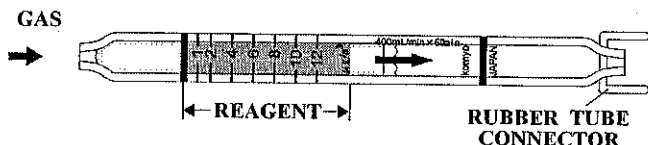

Fig.1
- ① Break both ends of the detector tube with attached ampoule cutter.
- ② Connect the detector tube into the rubber tube connector of the Model S-20 series air sampler as shown in Fig. 1 (Arrow mark shall point to the sampler.), and fix it into the detector tube holder.
- ③ Turn ON power of the air sampler.
- ④ In accordance with the instruction manual of each air sampler, preset the TIMER (Hours) at 60 minutes and adjust the sampling flow rate at 400mL/min.
- ⑤ After completion of sampling (60 minutes), remove the detector tube from the tube holder and read the scale at the maximum point of a stained layer.